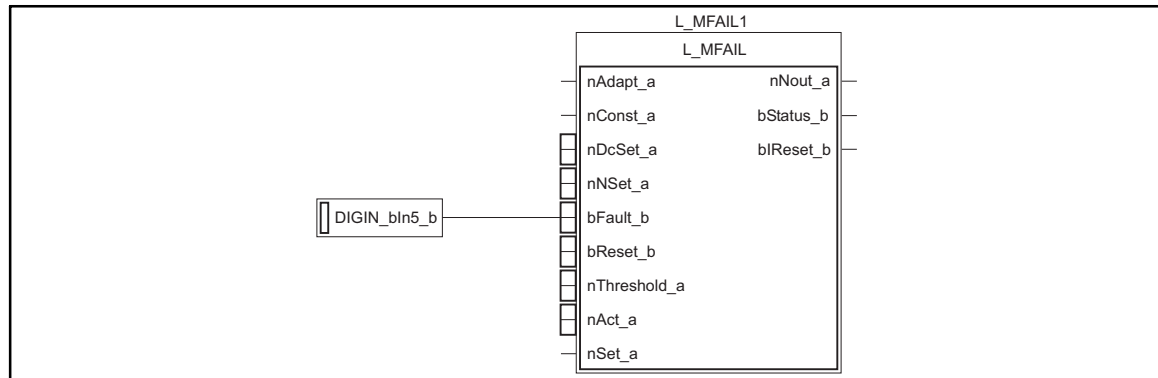

Abb. 2-8 Example of a supply-failure detection by an external monitoring system
Programming the example in Abb. 2-8:
- Set the signal links according to Abb. 2-8